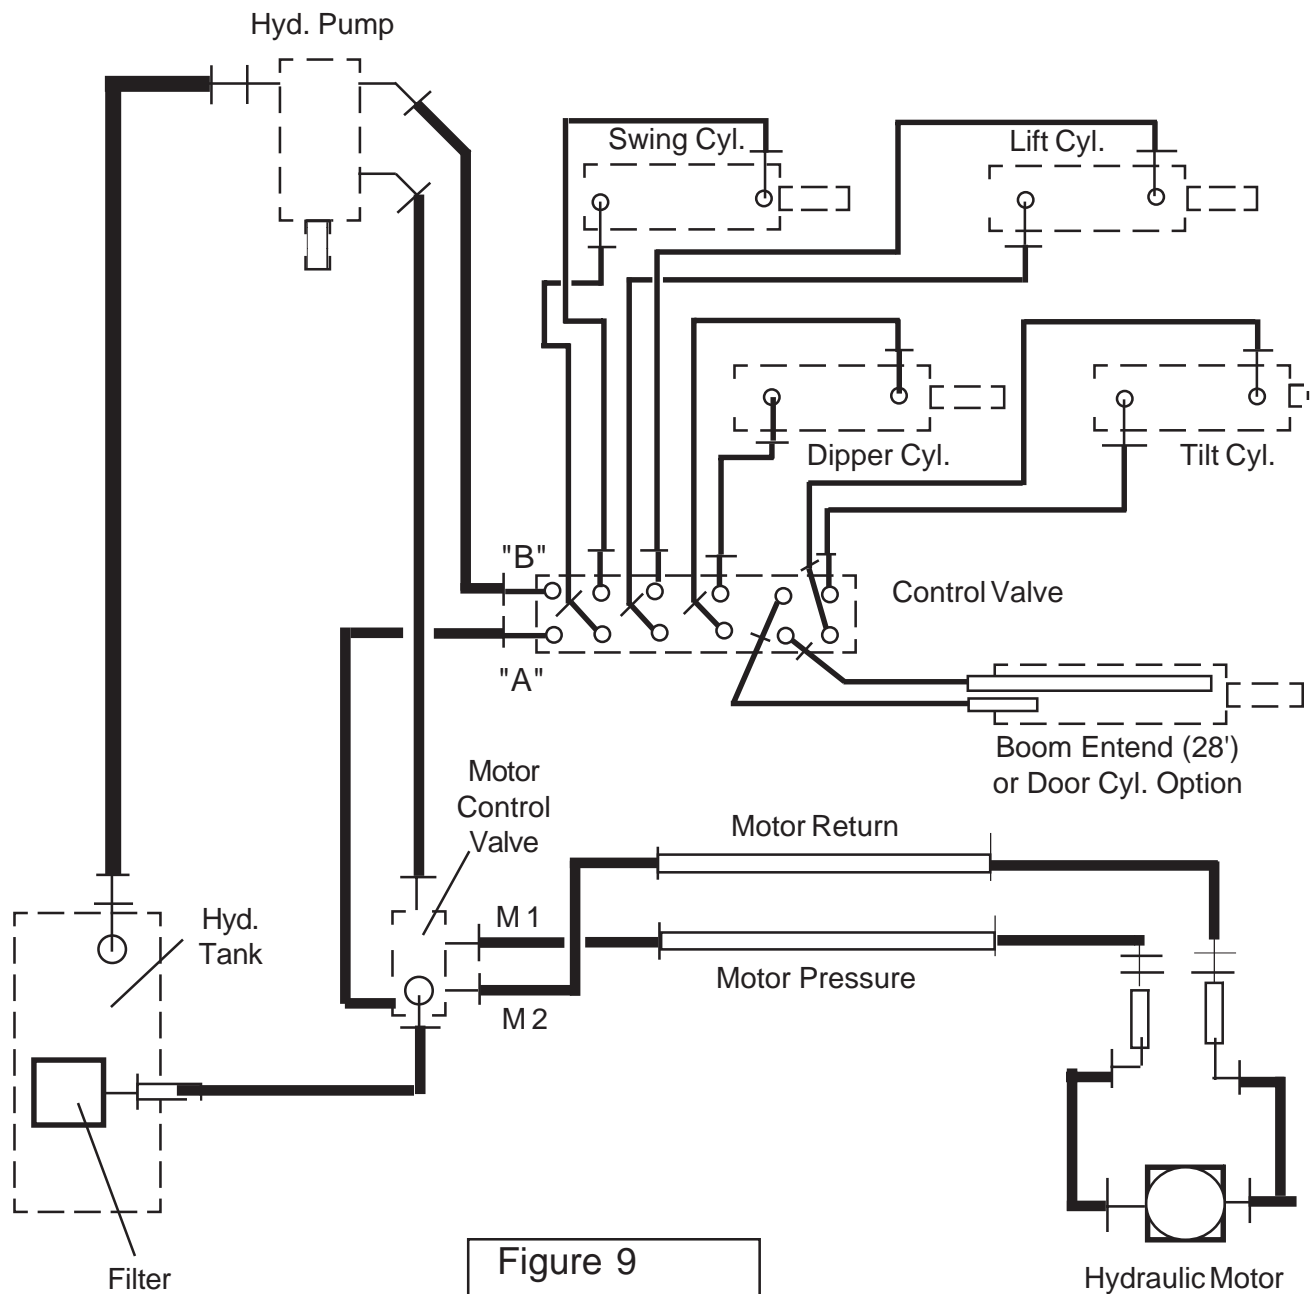

Figure 9
1. Suction Hose, Tank to Pump. The Suction hose connects to the front RH side of Tank (**See Figure 8**) and runs through a Hose Ring that is welded to the frame Rail (**See Figure 9**). The Suction Hose connects to the front Pump on the Left Hand Side of Pump (**See Figure 10**).
3. The Control valve will bolt on the top of the High Frame on the right hand side. There is a tab welded to the Frame that has two holes in it, the Valve mount plate will bolt to this tab and the valve will bolt to mount plate **(See Figure 9)** The Valve in Figure 6 shows the Hoses and Control Cables already connected, this is for illustration only. The Control Cables and Hoses are connected after the Valve is bolted to the mount plate. Most of the Hoses shown in figure 9 are running from the Boom. These Hoses must be connected to the correct Port on the valve and to the correct side to operate correctly.
Cylinder Hydraulic Control Circuit: (See Figures 9 & 10)
Cylinder Hydraulic Control Circuit: (See Figure 9 & 10)
6. Hydraulic Cylinder Hoses. The Hoses for the Hydraulic Cylinders will be marked with bands that have the Part Numbers on them. These part numbers will vary with the size of the Boom Model. The 28 ft. model will have more hoses for the Boom Extend Function, the model with the Hydraulic Door on cutter head will have more hoses. To find which Hose you have you will need to consult the Parts / Operators manual. When connecting the Hoses to The Valve use these numbers to connect the correct hoses to the correct ports. It may be required that you do some tracing of hoses to find which hose is hooked to which end of a Cylinder. Listed below is a list of which end of Hydraulic Cylinder should be connected to which Port on valve. **(See Figure 9 & 10)**